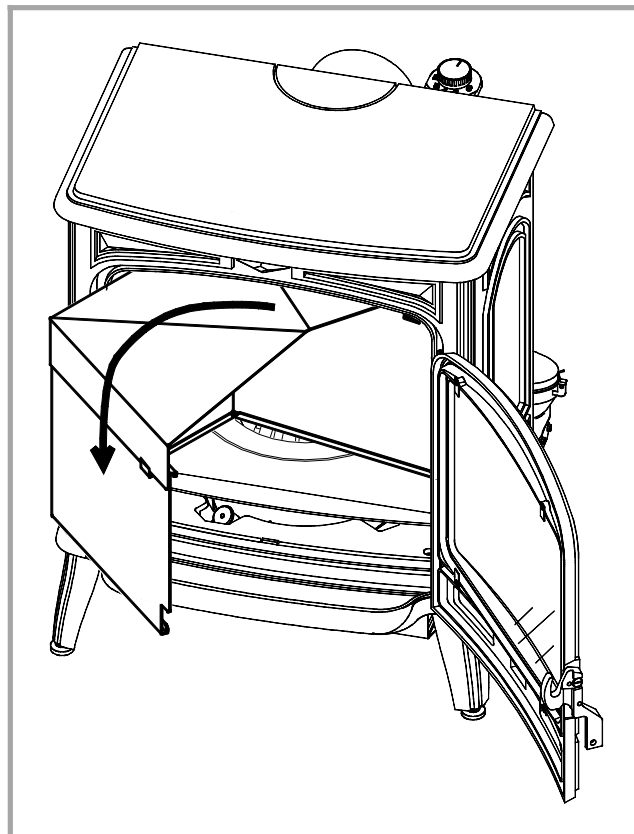

Figure 11 - Removing the flue baffle
- First remove the flue baffle (fig. 11)